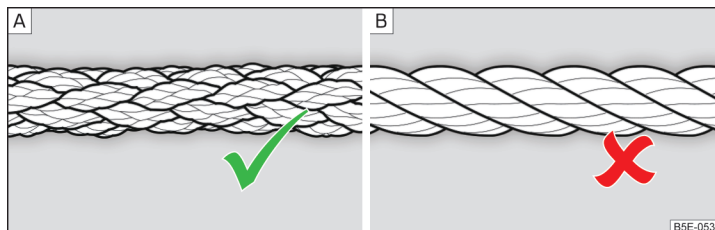

Fig. 158 Braided tow rope / Spiral tow rope
To tow with a tow rope, only use a braided synthetic fibre rope » Fig. 158 - **A** » **1**.
- Spiral tow ropes must not be used for towing » Fig. 158 - [B], the towing eye may unscrew out of the vehicle - risk of accident.